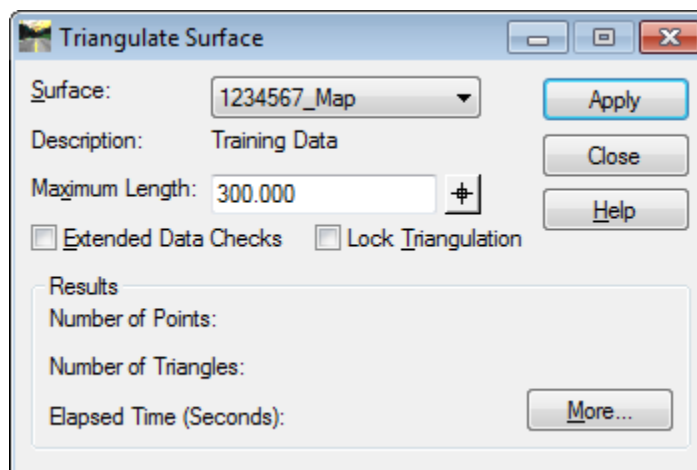

Figure L5-1 Triangulate Surface
5.	<p>Before importing the Exterior Boundary into InRoads – a “Preliminary” Surface will be re-triangulated so that the Exterior Boundary will have a surface to “drape” the points on to obtain point elevations.</p> <p>Select Surface ► Triangulate Surface. The Triangulate Surface dialog box will open.</p> <ul style="list-style-type: none">• In the Surface: Pulldown – select 1234567_Map• In the Maximum Length: field enter – enter 300.00 <p>Leave all other entries as default.</p> <p>The inputs should now correspond to the screen capture depicted in Figure L5-1 (as shown below). Verify to ensure that your input matches the screen capture.</p> <p>Opens the Triangulate Surface dialog box.</p>